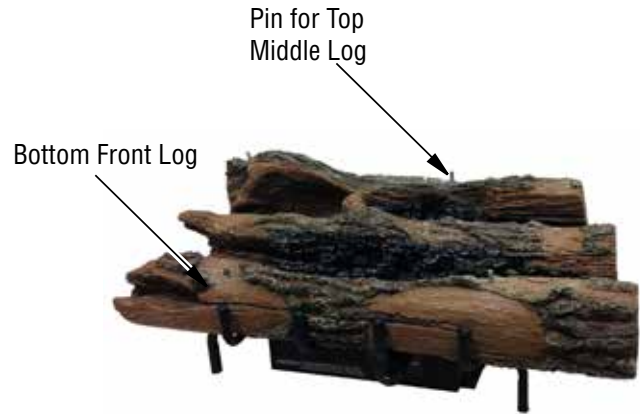

Figure 38 - Placing 24/30" Bottom Front Log
3. Place bottom front log onto grate as shown in **Figure 38**. Front log has cut outs for the fingers of the grate to fit into.